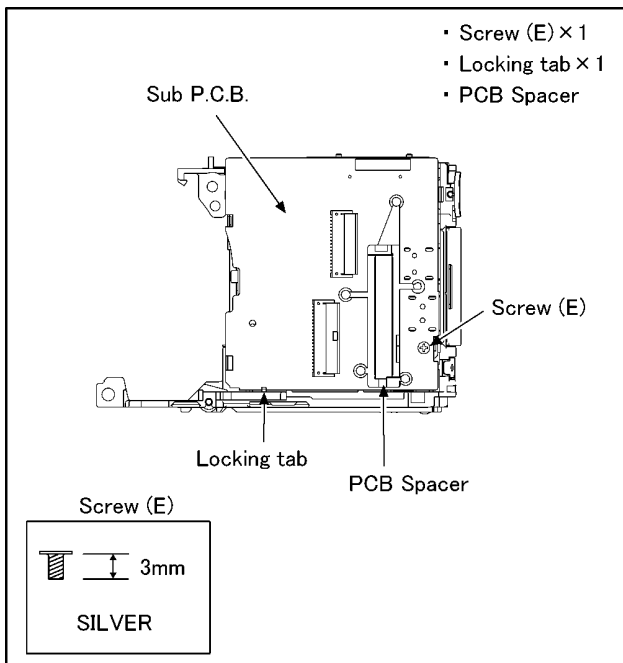

Fig. D10
| 8   | Sub P.C.B.                          | Fig. D10           | 1 Screw (E)                                    |